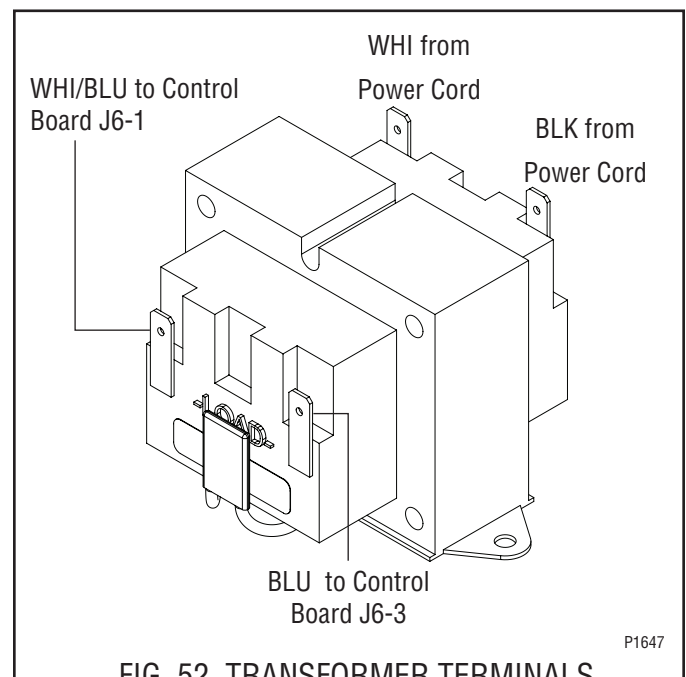

FIG. 52 TRANSFORMER TERMINALS
7. Refer to Fig. 52 and connect the transformer to the main wiring harness.